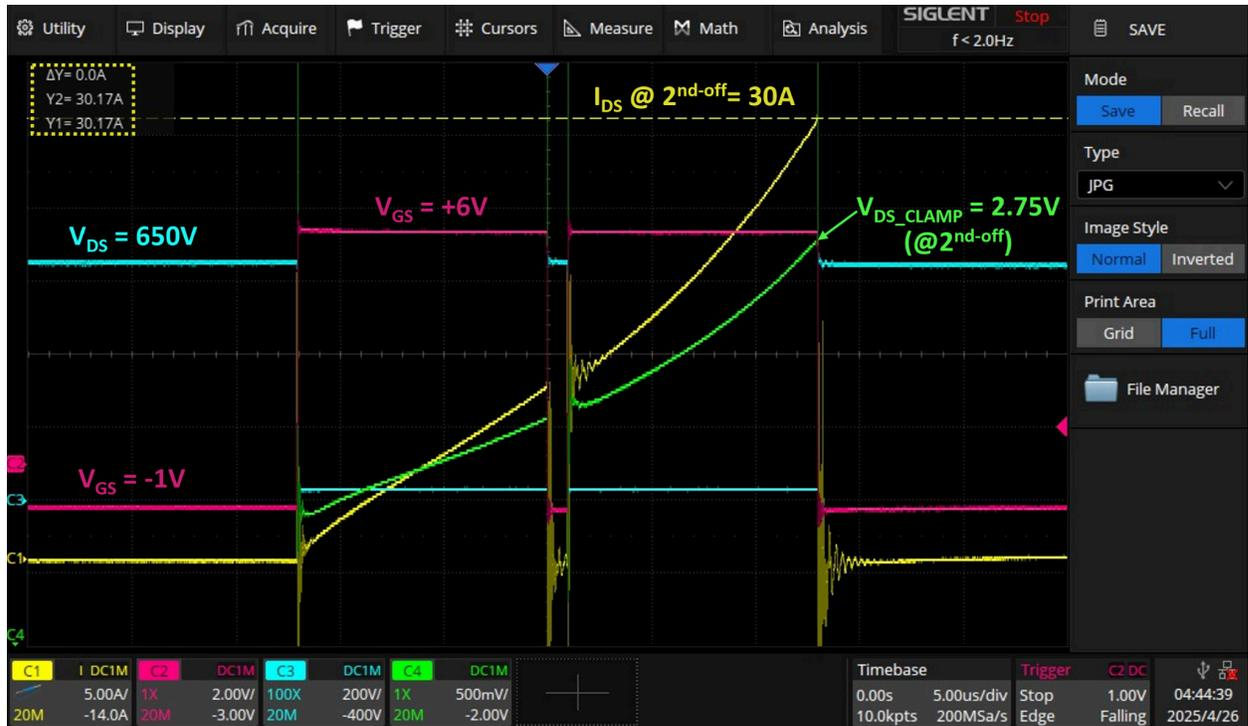

Figure 6: DPT of GPI65030DF88 at $V_{BUS} = 650V$, with L-load = 360 μH .
- Apply the PWM pulse signal to INPUT SIGNAL and monitor the DUT drain voltage, current and dynamic $R_{DS(ON)}$. Figure 6 shows the DPT of GPI65030DF88 without the $R_{DS(ON)}$ waveform at $V_{BUS} = 650V$.